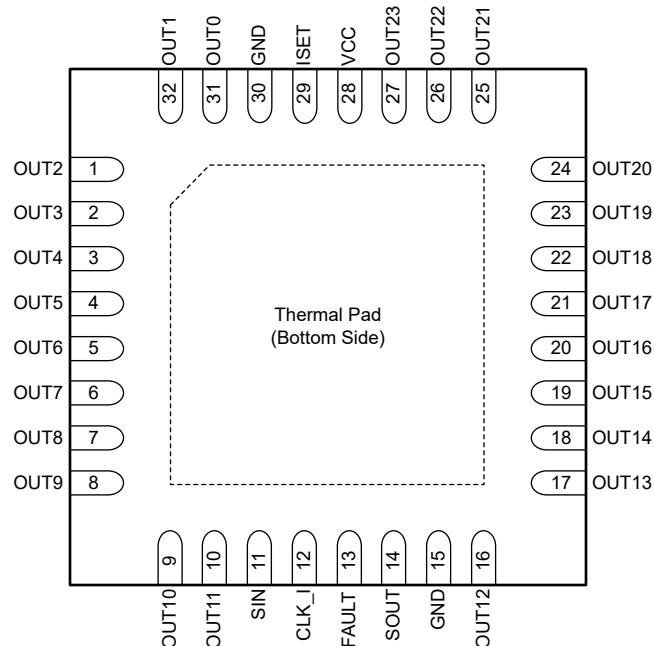

Figure 4-1. Pin Diagram (WQFN (32) Wettable flank) Package
4.1 WQFN (32) Wettable flank Package
Figure 4-1 shows the TLC69624-Q1 and TLC69634-Q1 pin diagram for the WQFN (32) Wettable flank package. For a detailed description of the device pins, see the *Pin Configuration and Functions* section in the TLC69624-Q1 and TLC69634-Q1 datasheet.